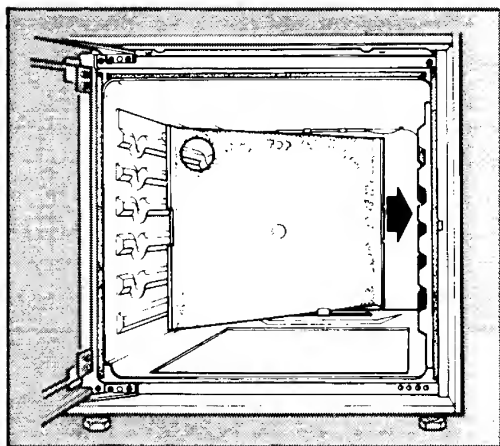

Fig. 3
1. Replace the back panel, sliding it back into position behind the oven burner, ensuring that the oven light cut-out is positioned over the oven light (Fig. 3).